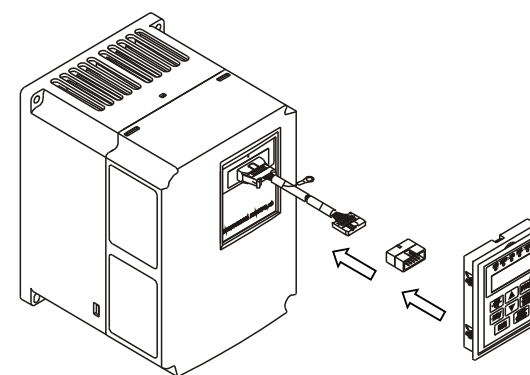

Fig. 3-11 Mounting Diagram of the operator panel and connecting wire of the inverter Model A
Step 5. Put the dismantled operator panel into the installation frame provided in the optional components, fix and fasten it. Plug the other end of connecting wire into the jack panel slot, and then plug the slot into operator panel (as shown in Figure 3-11).